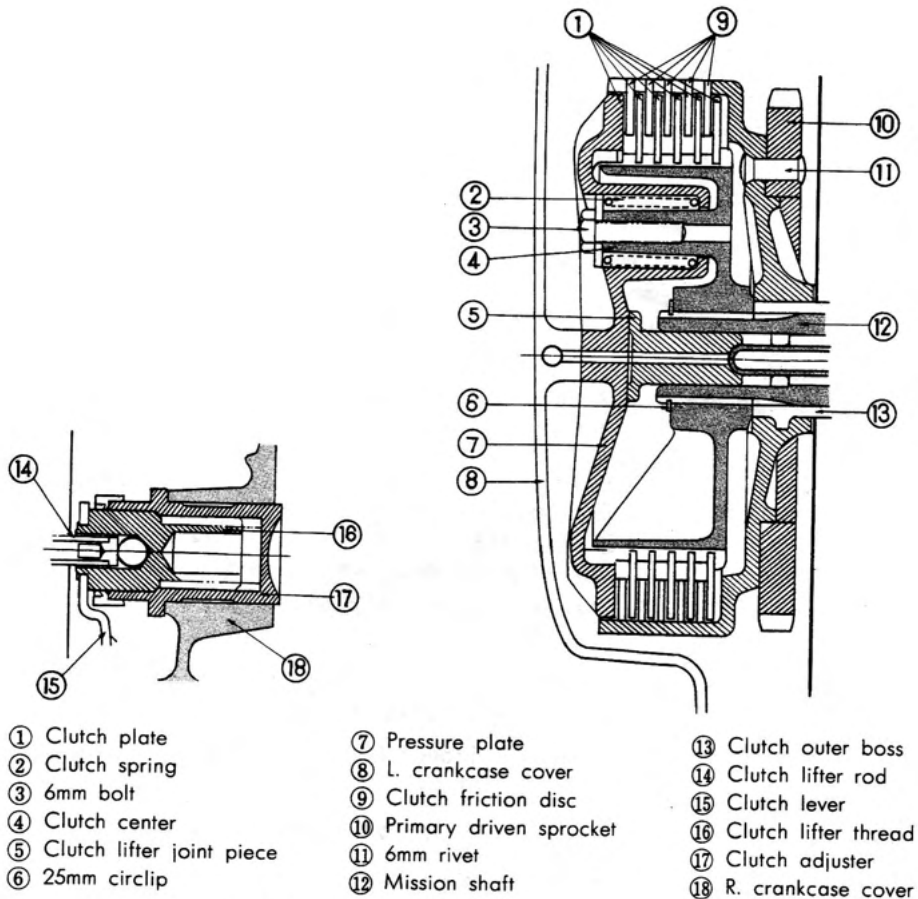

Fig. 3-2. Cross section of clutch for Model C72
As shown in Fig. 3-1 (disassembled figure) and Fig. 3-2 (cross sectional figure), there is clutch outer complete when crankcase cover is taken out. In the clutch outer complete, clutch sprig (10) is set by 4 of 6×24 hexagonal bolts pressing clutch pressure plate (9) and sandwiching clutch friction disc (6) by clutch plate (7). Inside of the clutch plate teeth are cut which mesh with that of outer part of clutch center (8), and the clutch center is connected with the transmission mainshaft by spline and rotates with (7), (8) and (9) as a whole with the transmission mainshaft.